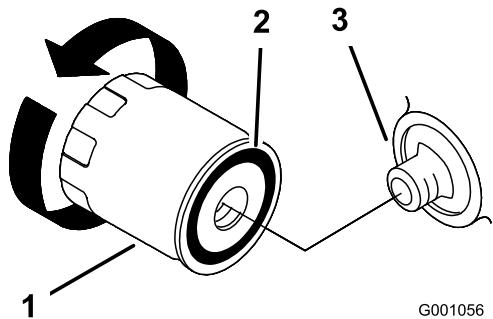

Figure 40
2. Remove the old filter and wipe the filler adapter gasket surface (Figure 40).
5. Apply a thin coat of new oil to the rubber gasket on the replacement filter (Figure 40).
6. Install the replacement oil filter to the filter adapter, turn the oil filter clockwise until the rubber gasket contacts the filter adapter, then tighten the filter an additional 2/3 to 1 turn (Figure 40).